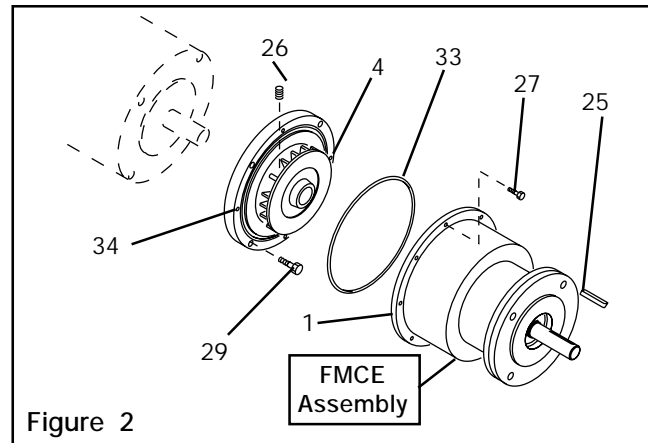

Figure 2
1. Remove the eight Hex. Head Cap Screws (Item 27); then, separate the Female Pilot (Item 34) and Drive Disc (Item 4) from the FMCE Assembly (See Figure 2).
3. Slide the Female Pilot (Item 34) and the Drive Disc (Item 4) onto the motor shaft (See Figure 2).
4. Using four Nexen supplied 0.375-16 x 1.000" Hex. Head Cap Screws (Item 29), secure the Female Pilot and the Drive Disc to the motor (See Figure 2).
6. Tighten the Set Screw (Item 26) to lock the Drive Disc (Item 4) onto the motor shaft (See Figure 2).
7. Coat the O-ring Seal (Item 33) and the seal contact surface with a film of O-ring lubricant, then wipe off any excess lubricant (See Figure 2).
8. Slide O-ring Seal (Item 33) onto the seal diameter of the Female Pilot (Item 26) (See Figure 2).
9. Slide the FMCE Assembly onto the Female Pilot (Item 26) and the Drive Disc (Item 4) (See Figure 2).
10. Using eight Hex. Head Caps Screws (Item 27), secure the FMCE Assembly onto the Female Pilot and Drive Disc (See Figure 2).